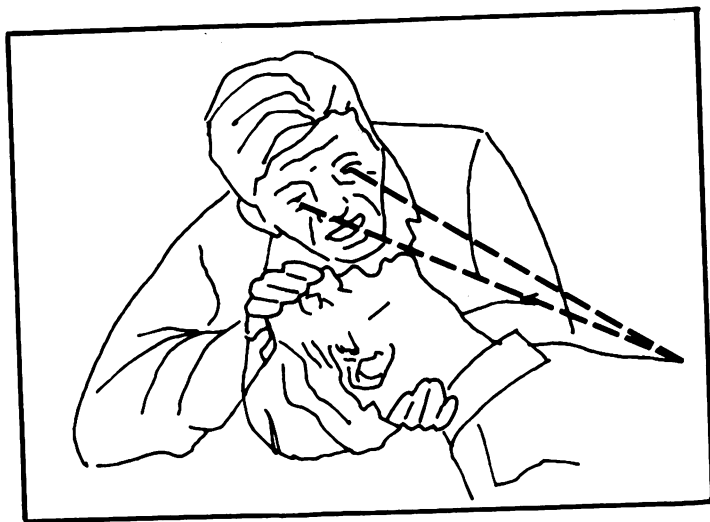

Figure 1.
5. Tilt the soldier's forehead back and lift his neck as shown in figure 1. This should open the airway.
6. Pinch the soldier's nose closed as shown in figure 1.